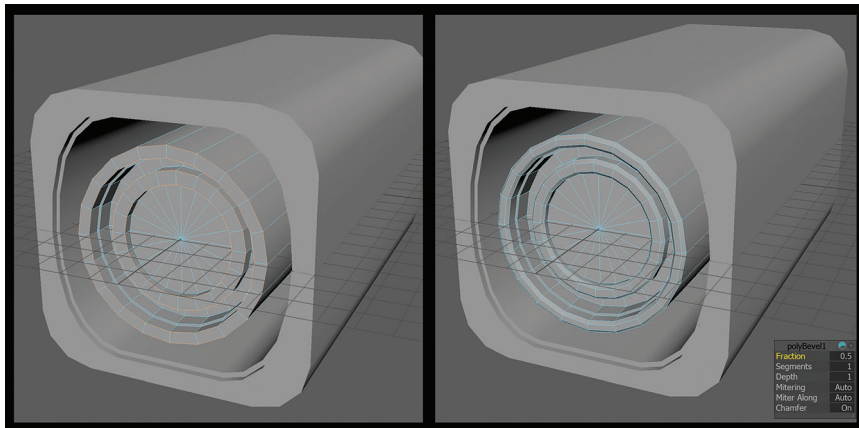

FIGURE 1.15 Beveling and softening the edges to create the rim of the front lens.
Step 12: Bevel the rim. Select the harsh edge loops on the rims of the lens (remember, you can do this by double-clicking on an edge while in Edge mode) and press Ctrl+B to bevel them. Select all the edges in the front of the lens, do a Soften edge command to soften the edge of the lens (Figure 1.15).